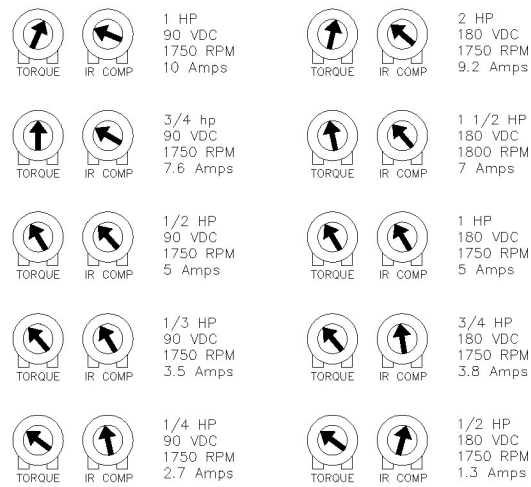

Figure 16. Recommended Torque and IR COMP Settings
- See Figure 16 for recommended TORQUE settings.
See Figure 16 for recommended IR COMP settings.